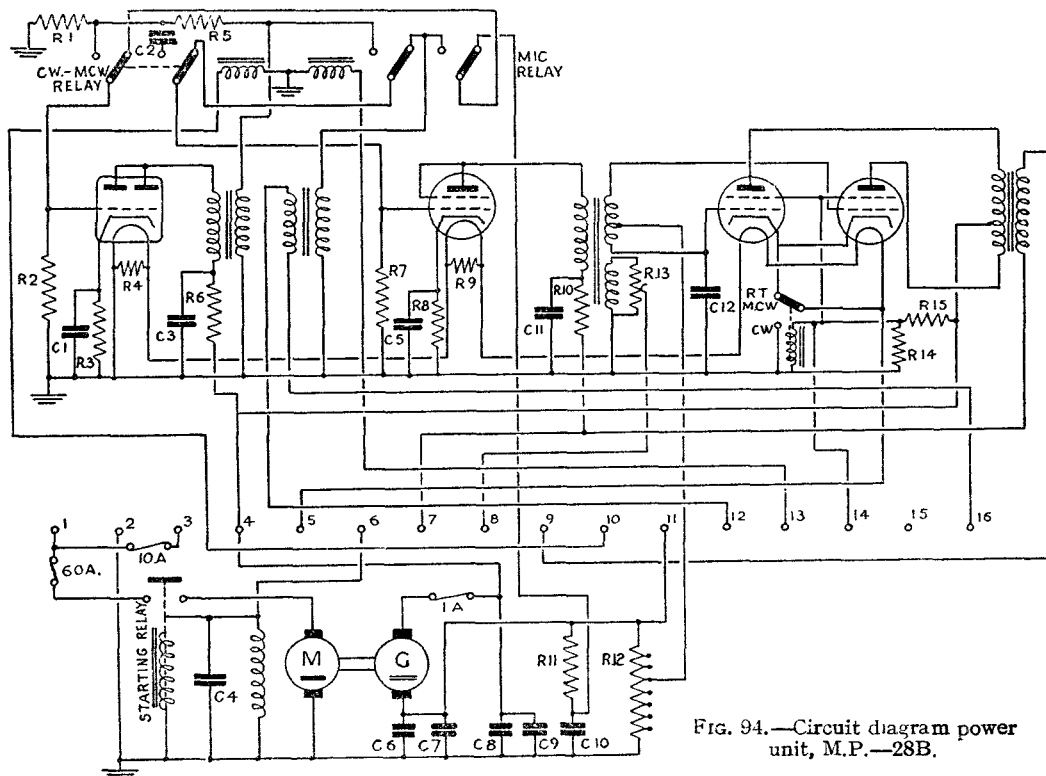

Fig. 94.—Circuit diagram power unit, M.P.—28B.
4. **Modulator** (fig. 94).—The modulator amplifier is mounted with the